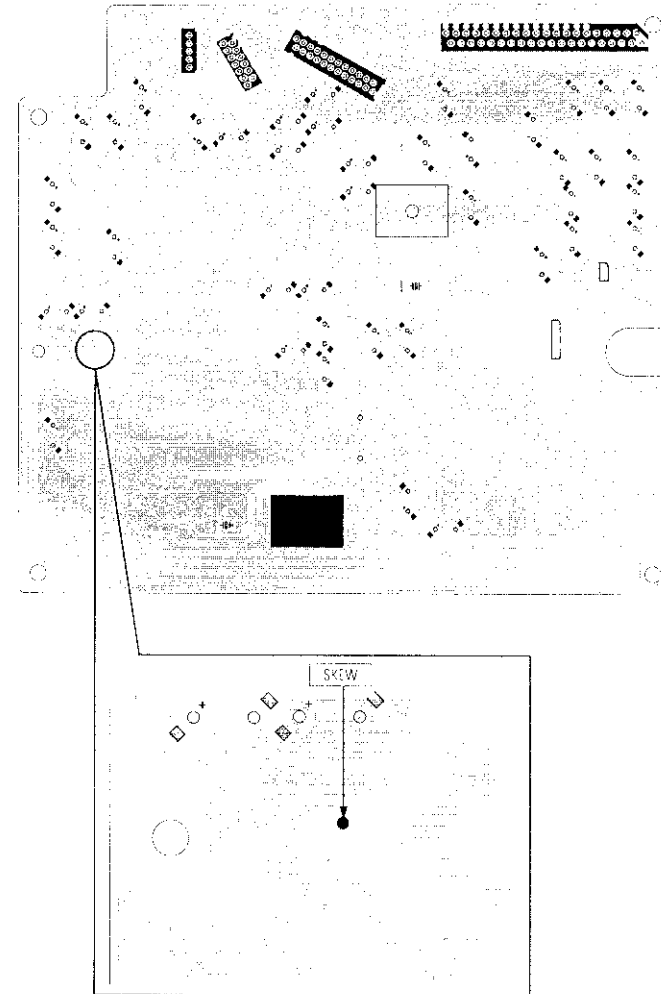
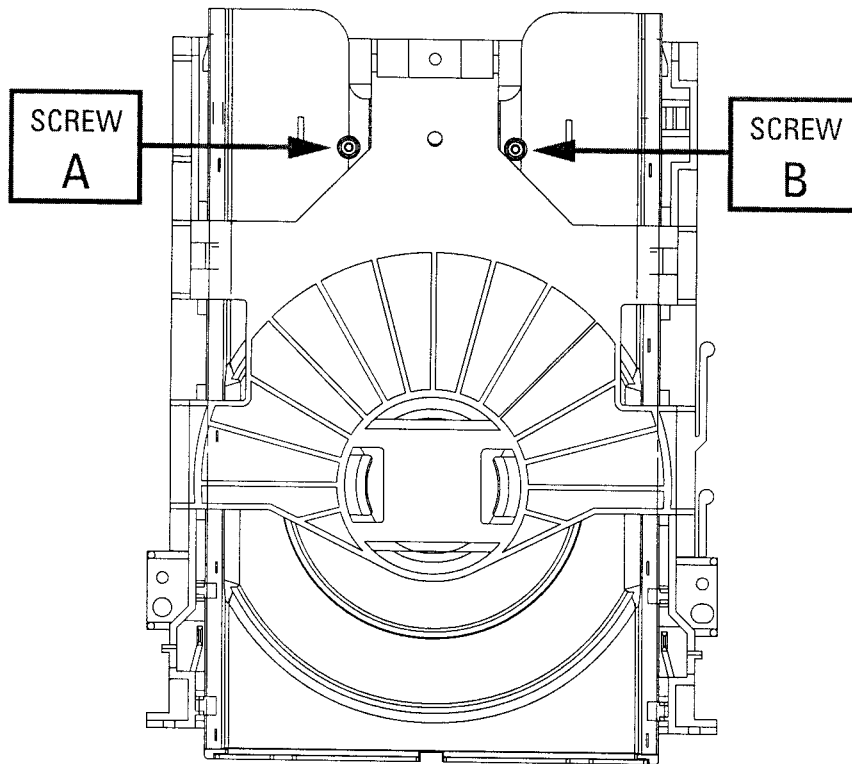

Fig. 6-5 Location of test Point (DVD Main PCB - Bottom Side)
Fig. 6-6 Ass'y Deck (Top Side)
| TDV-533Chapter 14(P/N: J-6090-135-A) | Flat Waveform    | "SKEW"(DVD Main PCB - Bottom Side)(See Fig. 6-5) | Ass'y Deck - Top Side(See Fig. 6-6) |
- 1) Connect an Oscilloscope to the "SKEW" Test Point (See Fig. 6-5).
- 3) Adjust the Screws "A" and "B" (See Fig. 6-6) using a Hex screwdriver until you obtain a Flat Waveform and the picture is stable. Then, go to Chapter 1 and make sure the Waveform is Flat here as well. If not, you have to go back to Chapter 14 and adjust again. If you cannot obtain a Flat waveform, then the unit is defective.